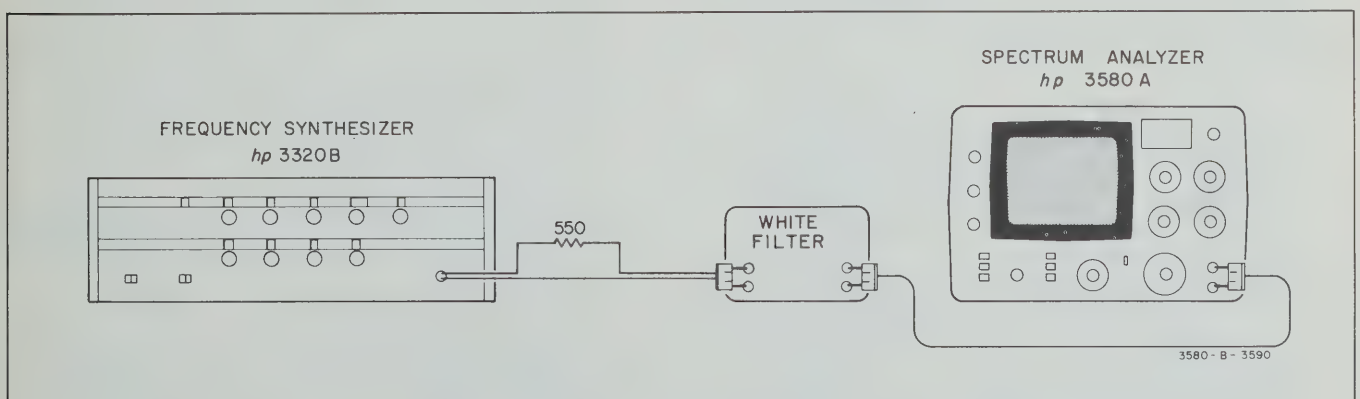

Figure 5-3. Spurious Response Test.
- e. Connect the frequency synthesizer (use proper output impedance needed for the bandpass filter) to the input of the bandpass filter. Adjust the filter for a 5 kHz center frequency and adjust the synthesizer for a 5 kHz output. (For a 50 ohm source and the White 2640 filter, connect a 550 Ω resistor ($\pm 10\%$) in series between the filter and synthesizer. This gives the 600 Ω source impedance required by the White filter (See Figure 5-3).
- f. Connect the output of the filter to the input of the 3580A. Always terminate properly if required. (The White Model 2640 filter requires no output termination. See Figure 5-3).